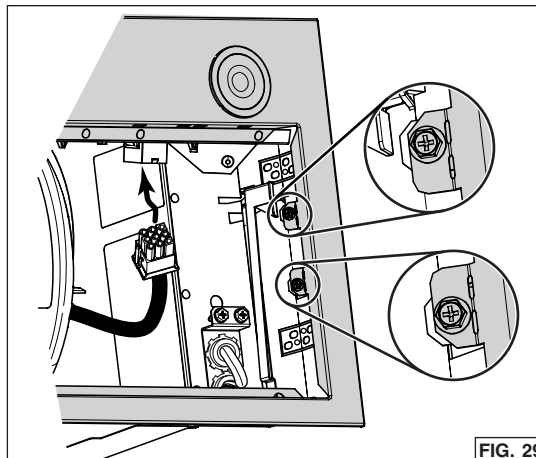

FIG. 29
7. Reinstall and secure the faceplate to the unit using its 4 retaining screws (two per side). Plug the blower cable to its connector on faceplate (FIG. 29).